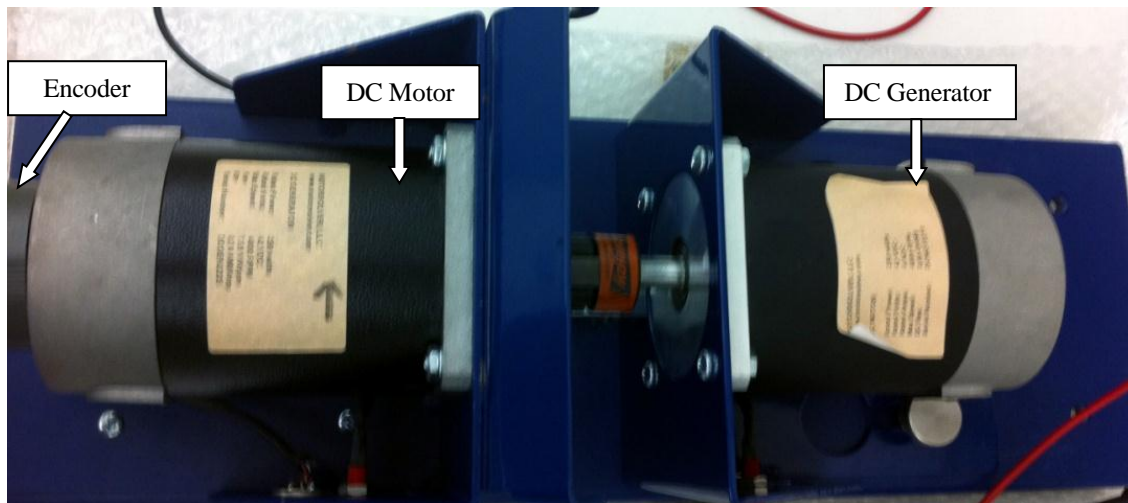

Figure 1.2: Motor Coupling System showing DC Motor, DC Generator and Encoder
- *Motor coupling system:* This system contains the motor that needs to be characterized or controlled. The system has a mechanical coupling arrangement to couple two electric machines. The motor under test (MUT) whose speed/torque needs to be controlled, could be either a DC motor or a Three-phase induction motor or a Three-phase Permanent-Magnet AC (PMAC) motor. The system also has an encoder mounted on the machine which is used to measure the speed of the MUT. This can be used for close loop feedback speed-control of the motor. The motor demands a controlled pulse-width-modulated (PWM) voltage to run at controlled speed or torque. The PWM voltage is generated by Power Electronics Drives Board (briefed next); the voltage source thus generated is connected to the motor coupling system as shown in Fig 1.2.